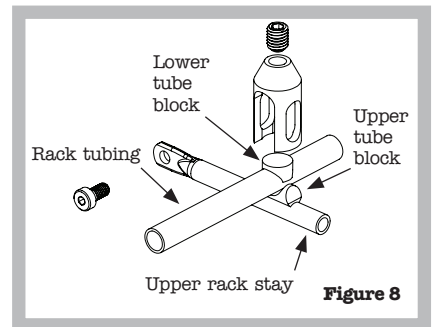

Figure 8
8. Orient the upper and lower tube blocks, as well as the upper rack stay and rack tubing as shown in Figure 8.